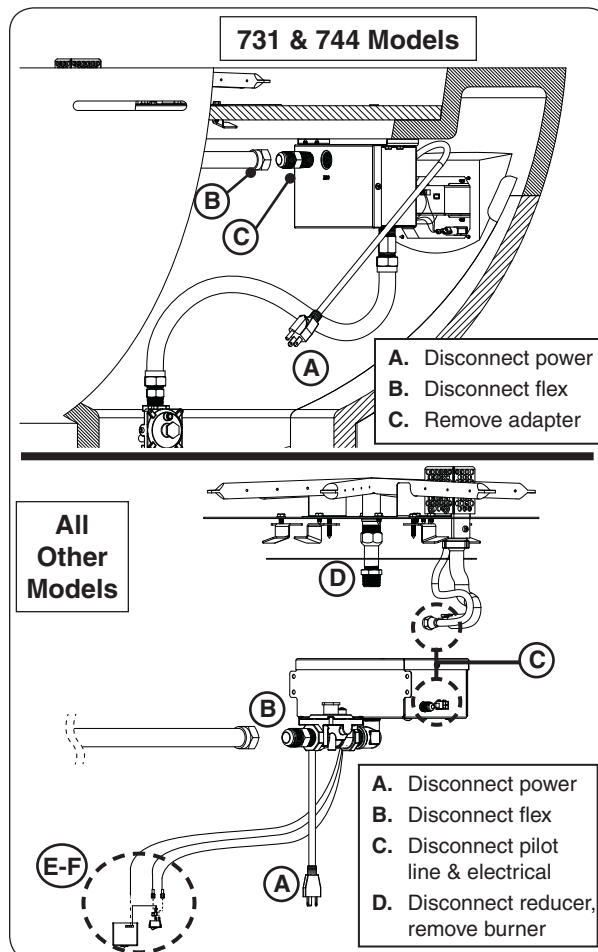

Fig. 48-2 Gain access to valve box
2. Gain access to the valve box from the unit as shown in Fig. 48-2, A-C.
2. Remove the burner and gain access to the valve box as shown in Fig. 48-2, A-C.
2. Remove the burner and gain access to the valve box as shown in Fig. 48-2, A-D.